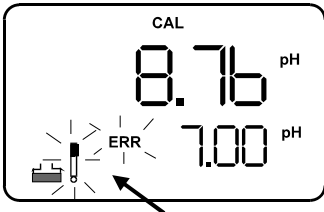

Figure 2: Calibration error
**HINT: If the selected buffer value is not within the accepted window (see below) from the measured value: the electrode and buffer icon blink and ERR annunciator appears next to the secondary display. (See Figure 2 above) Press CAL/MEAS key to exit the ERR condition.**